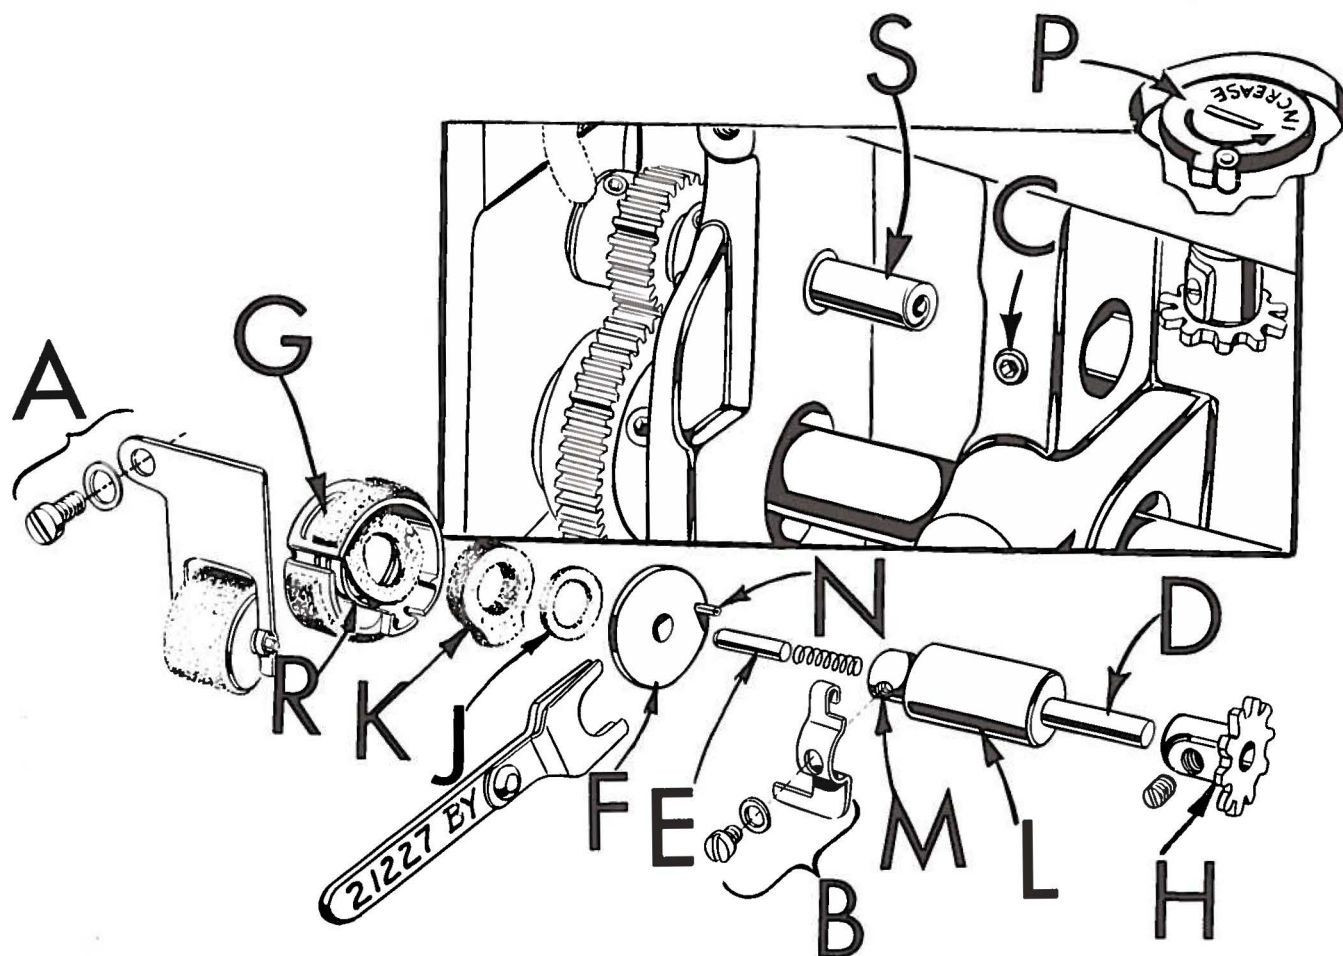

Fig. 23
Hook oiling is accomplished by a high speed rotary pump on the end of the hook shaft. The quantity of oil supplied to the hook is regulated by the longer or shorter path the oil is required to travel through the metering felt of metering cup (G, Fig. 23). (Increase or decrease of oil supply is controlled by a dial (P, Fig. 23) with an arrow marked "INCREASE", found below the cloth plate). The hook oil feed roller (A, Fig. 23) which rests against the metering cup felt serves not only to feed oil to the unit from the oil reservoir, but filters the oil as well.
1. Remove hook oil feed roller (A, Fig. 23).
2. Remove hook oil control finger (B).
3. Apply finger pressure to hook oil control shaft (D) to prevent loss of pump disc pivot pin (E) using Allen wrench, loosen set screw (C). Move assembly slowly to right, being careful not to drop pivot pin located in the end of the hook oil control shaft. When pivot pin is clear of pump disc (F), disc is free to fall.
4. Remove metering cup (G) along with oil supply felt (K) and air seal felt (J).
5. Remove cog (H) from hook oil control shaft.
1. Remove and separate the air seal felt (J, Fig. 23) from oil supply felt (K).
2. Make sure small end of air seal spring (R) is located on boss of metering cup behind felt attached to cup. Position metering cup (G) and air seal spring on hook shaft (S) with open end toward handwheel end of machine (Fig. 23).